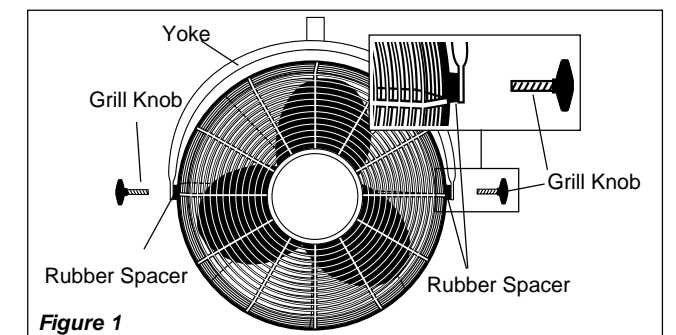

Figure 1
1. Lay Fan Head on flat surface, so the front side is facing down. Loosely attach one Grill Knob and one Rubber Spacer to the Head Assembly. Attach the other Grill Knob and Rubber Spacer to the Head Assembly and FIRMLY tighten. Return to the first Grill Knob and FIRMLY tighten. (Figure 1)